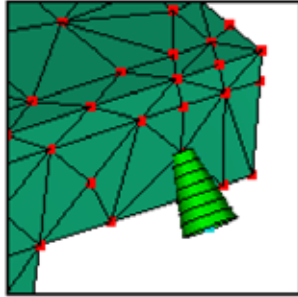

Figure 116: Gate with a mesh
- The gates should look like Figure 116.